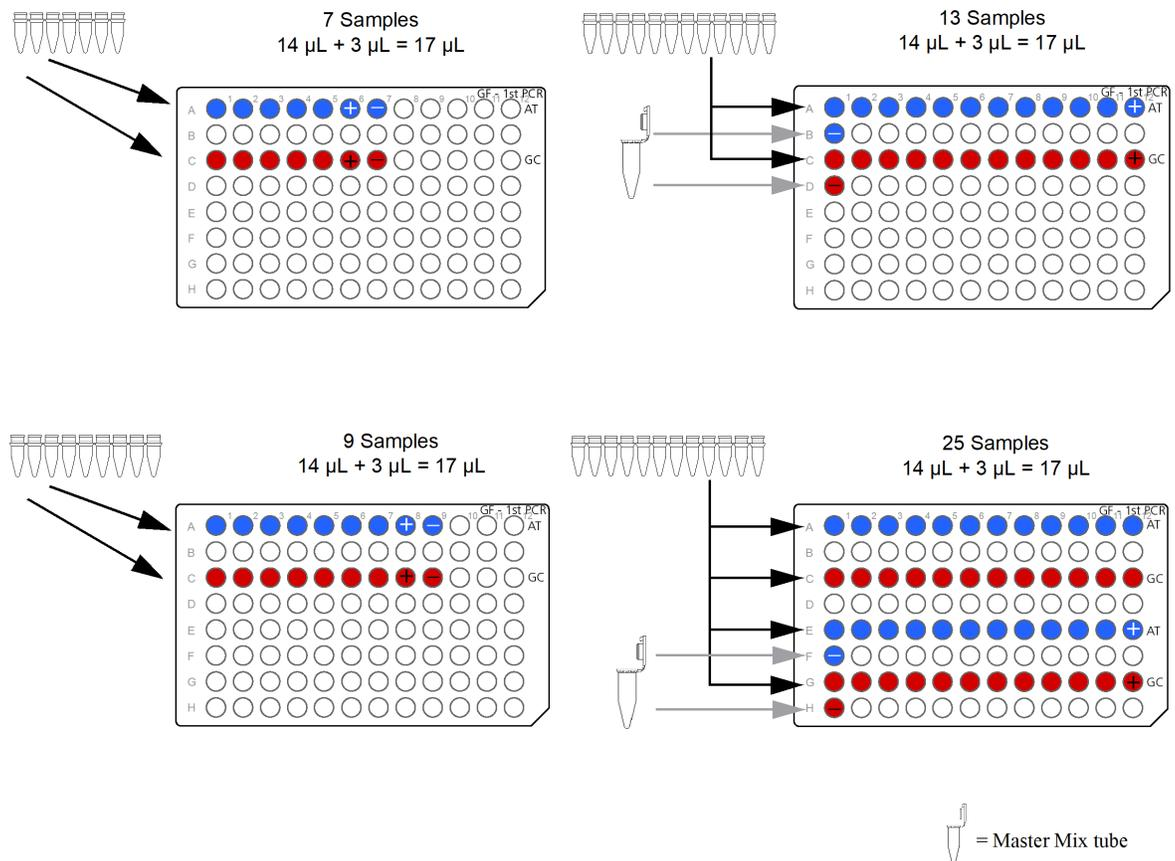

Figure 12 Adding the Exo Mix to the 1st PCR Plate.
10. Use a multichannel P20 pipette to add 3.0 µL of the Exo Mix to each sample. (Figure 12.)
**Note:** For the 13- or 25-sample protocol, use a single channel pipette to add 3.0 µL of the Exo Mix directly from the Exo Mix tube to the Negative Control wells. Pipet up and down 3 times to rinse the tip. (Figure 12.)